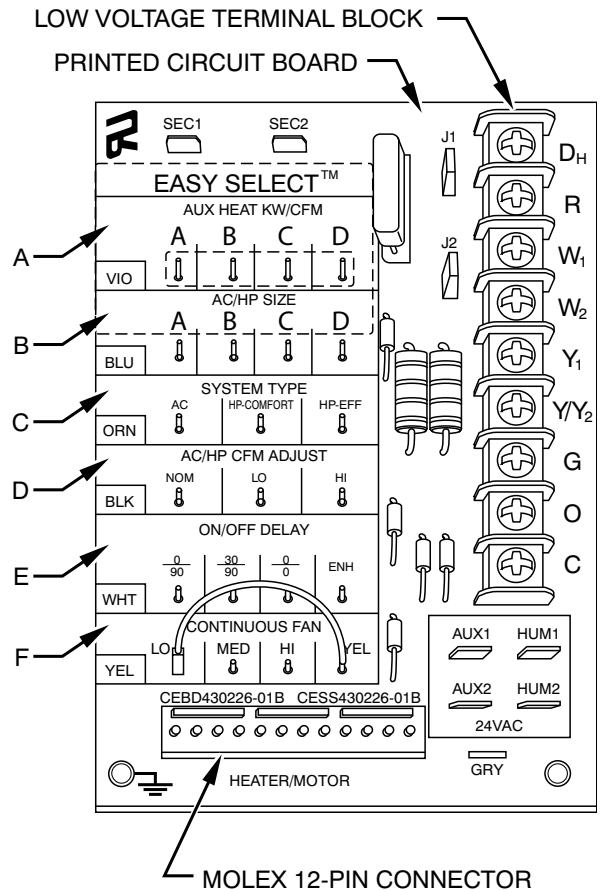
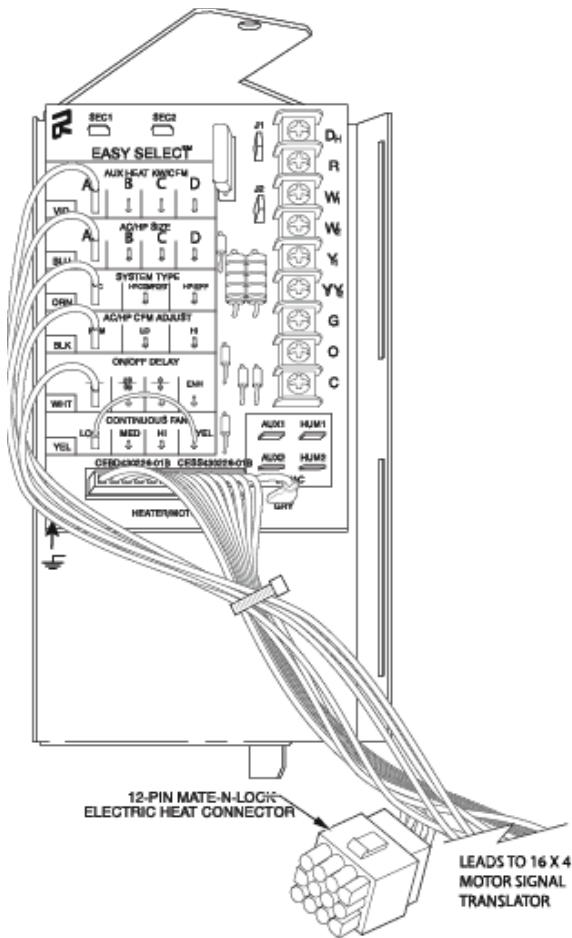

Fig. 17 – Detail of Printed-Circuit Board
Fig. 18 – Detail of Printed-Circuit Board (also showing 12-pin cable)
Easy Select taps are used by the installer to configure a system. The ECM motor uses the selected taps to modify its operation to a pre-programmed table of airflows (see Table 4 and Table 5). Airflows are based on system size or mode of operation and those airflows are modified in response to other inputs such as the need for de-humidification (see Fig. 17 and Fig. 18 and Table 2).
Installer must select the auxiliary heat airflow approved for application with kW size heater installed. If no heater is installed, this step can be skipped. Each select pin is marked with a range of heaters for which airflow, also marked, is approved. For increased comfort select the narrowest kW range matching the heater size, for example, 0-10 for 10-kW heater. This airflow must be greater than the minimum CFM for electric heater application with the size system installed for safe and continuous operation (see Table 6 and Table 7 for airflow delivery and minimum CFM). Note that airflow marked is the airflow which will be supplied in emergency heat mode and heating mode on air conditioners when electric heat is the primary heating source. In heat pump heating mode when electric heaters are energized, the ECM motor will run the higher of heat pump heating airflow and electric heater airflow to ensure safe heater operation. The factory selection is the largest heater range approved (see Fig. 17, A as indicated).
The factory setting for air conditioner or heat pump size is the largest unit meant for application with the model of fan coil purchased. Installer needs to select air conditioner or heat pump size to ensure that airflow delivered falls within proper range for the size unit installed. This applies to all operational modes with the exception of electric heat modes (see Fig. 17, B as indicated).
3. HP-EFF - Heat Pump Efficiency provides same airflow for heating and cooling modes to increase overall HP efficiency; approximately 350 CFM per ton. The factory setting is AC. (See Fig. 17, C as indicated.)
To provide airflow at rates described above, the AC/HP ADJUST select is factory set to the nominal (nom) tap. The adjust selections HI/LO will regulate airflow supplied for all operational modes, except non-heat pump heating modes. HI provides 15% airflow over nominal unit size selected and LO provides 10% airflow below nominal unit size selected. Adjust selection options are provided to adjust airflow supplied to meet individual installation needs for such things as noise, comfort, and humidity removal (see Fig. 17, D as indicated).
Four motor operation delay profiles are provided to customize and enhance system operation (see Fig. 17, E as indicated).
3. HI speed - move connector of HI, 100% cooling mode airflow (see Fig. 17, F as indicated).
The following fan coil configuration is recommended for maximum heating and cooling/dehumidifying comfort (see Fig. 17):
7. If the fan coil is installed with Heat Staging capable electric heaters, remove jumper J2 (see Fig. 17).
The AUX and HUM terminals on the Easy Select Board are tied directly to the G terminal, and provide a 24VAC signal whenever the G terminal is energized (see Fig. 17).